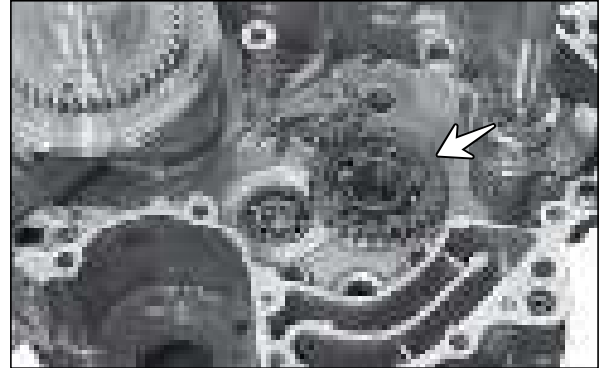

Fig. 3.156
- Take out the gear 2nd driven. (Fig. 3.156)